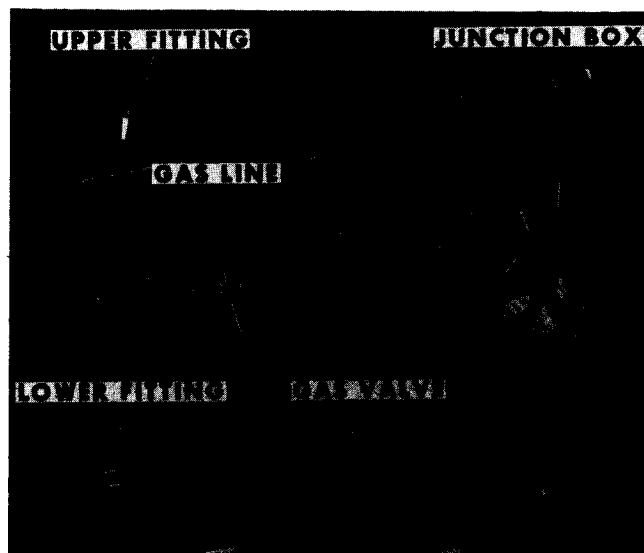
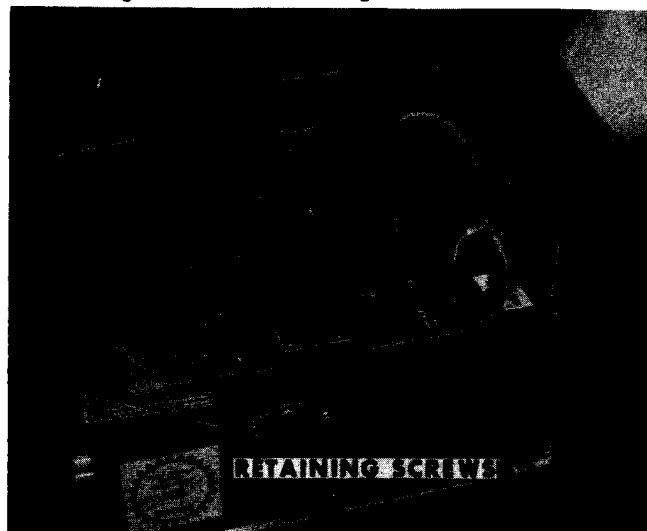

Figure 6 – Disconnecting Furnace Gas Line
Figure 8 – Removing Combustion Chamber Assembly Retaining Screws
4. Disconnect gas line lower fitting from furnace gas valve (Figure 6). Loosen gas line upper fitting. Rotate gas line 90° to allow for removal of combustion chamber assembly (Figure 8)
5. Remove cover from junction box (Figure 6).
7. Remove two combustion chamber assembly mounting screws (Figure 8).
2. Install two combustion chamber assembly retaining screws (Figure 8).
5. Connect gas line to furnace gas valve (Figure 6). Tighten upper and lower fittings on gas line.
2. Disconnect gas line from gas valve (Figure 6).
3. Connect gas line to gas valve (Figure 6).